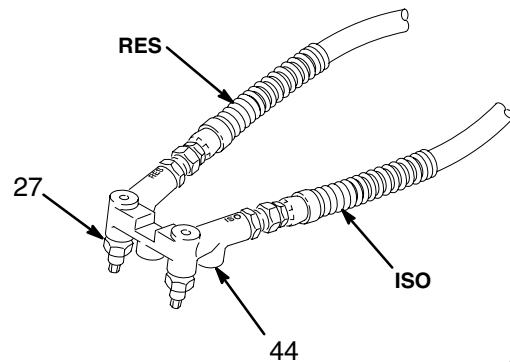

Fig. 11
1. The gun manifold (27) has four inlet ports; two ports are plugged with steel plugs (44). See Fig. 11. Relocate the plugs to route the hoses straight down from the manifold, if desired.